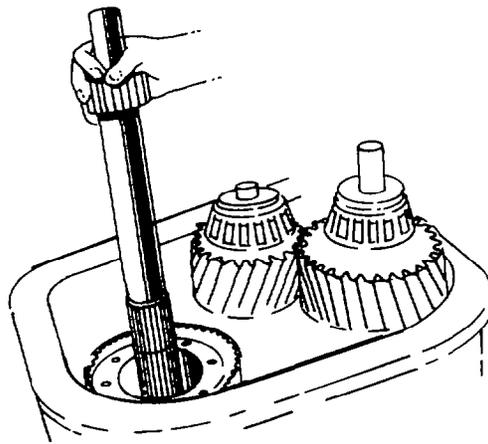

Fig. 251 — Installing Front Drive Shaft
- n. Install the front drive shaft in the inner bore of the main drive shaft (see fig. 251).